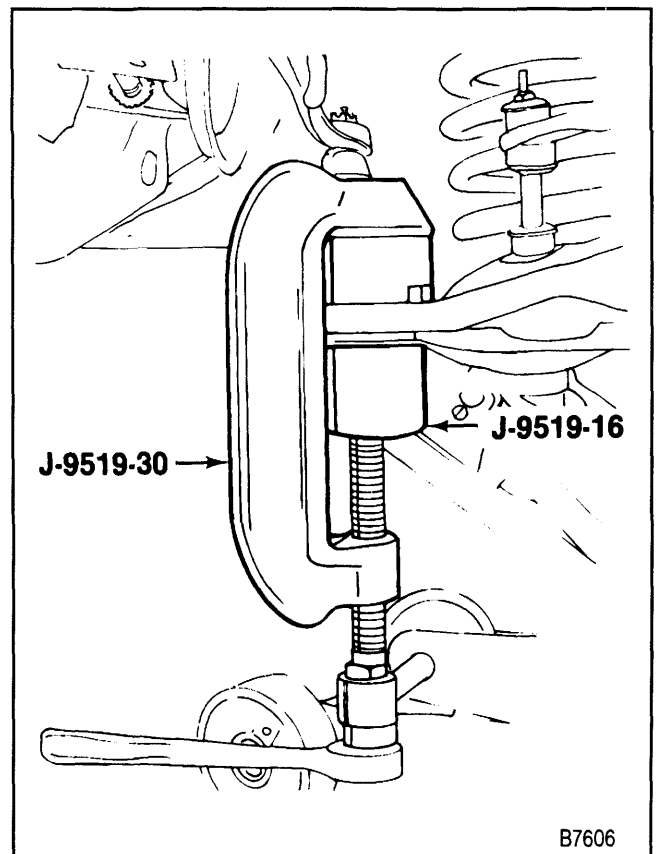

Figure 15—Installing the Lower Ball Joint
1. New ball joint (69) into the lower control arm (40).
- Press in the ball joint using tools in (figure 15). The ball joint will bottom on the control arm.